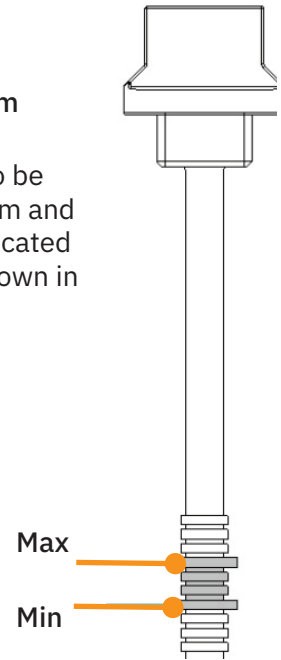

Figure 4
The oil level needs to be between the Minimum and Maximum marks indicated on the dipstick as shown in figure 4
3. Gradually fill the buffer with oil until the oil level is visible between the minimum and maximum levels on the dipstick ( indicated on figure 4)
6. Remove dipstick and inspect level. The oil level needs to be between the minimum and maximum marks indicated on the dipstick as shown in figure 4.
4. Remove dipstick and inspect level. The oil level needs to be between the minimum and maximum marks indicated on the dipstick as shown in figure 4.